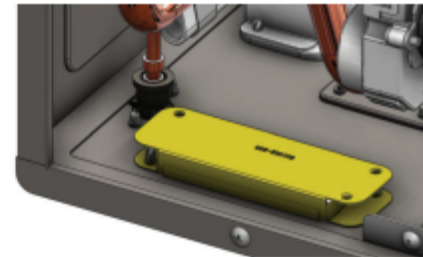

Figure 34 - Air Inlet Plate Orientation
- 5 Locate the air inlet plate as shown in Figure 34. Remove and keep the 3 screws securing it to the base of the water heater. The plate is color coded, and it should be rotated so that the yellow side of the plate is rotated upward. Secure with the 3 screws removed earlier.